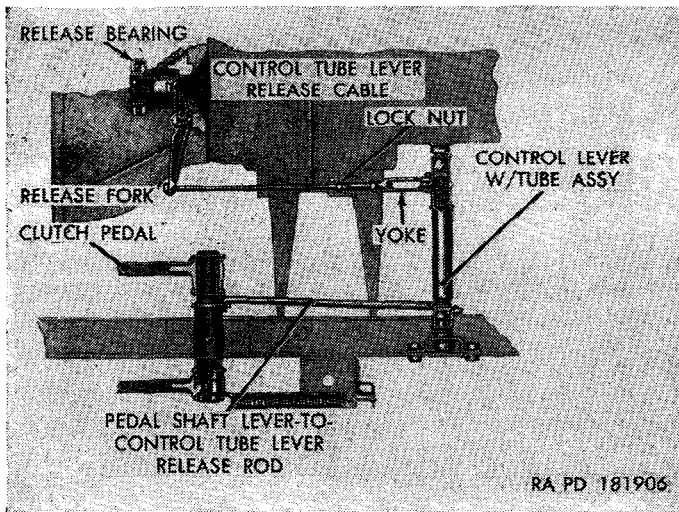

Figure 122. Clutch linkage adjustment.
b. Loosen the lock nut (fig. 122) that locks the yoke to the control tube lever release cable. Unscrew the yoke from the cable until the clutch pedal has $1\frac{1}{4}$ -inch free travel. Tighten the lock nut against the yoke after the adjustment is made.